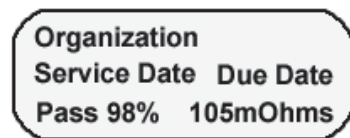

Figure 9-32: Sample of removable battery label
Another tracking method for fleet batteries is attaching a removable label that shows the battery information at a glance between services, as illustrated in Figure 9-32. The system is self-governing in that all batteries must regularly be serviced as part of quality control. This is made possible by providing a time period between the last service and the new date due. With this information on hand, the prudent battery user only picks a battery that has been serviced and meets this quality assurance (QA) test protocol. Setting up the maintenance system is simple and managing it requires only about 30 minutes per day.